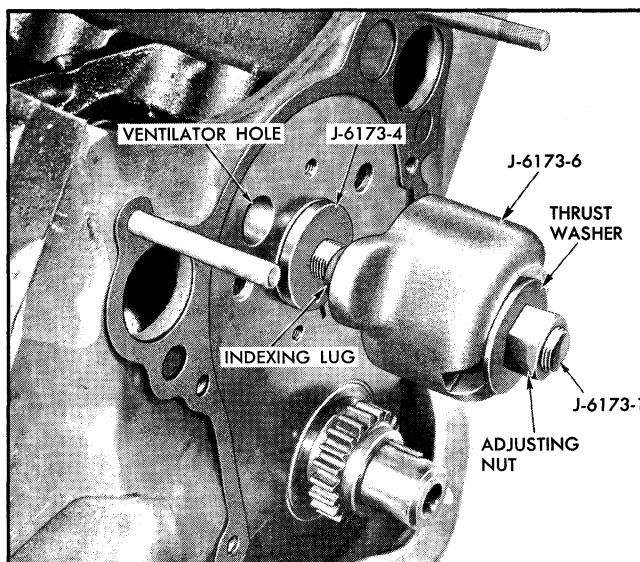

Fig. 6-121 Positioning Index Collar
1. Insert remover adapter J-6173-4 into front bearing to act as a support for shaft J-6173-1 (Fig. 6-121).
3. Place indexing collar J-6173-6 on threaded end of shaft with open side toward unthreaded end and start thrust washer and nut on shaft (Fig. 6-121).
4. Insert shaft and indexing collar through remover and replacer adapters and position lug on indexing collar in ventilator hole in front of block (Fig. 6-121). This indexes the shaft so that it cannot rotate.
6. Insert shaft with indexing collar, thrust washer, and nut through remover, pilot and replacer adapters and index lug on collar with ventilation hole in front of block (Fig. 6-121).